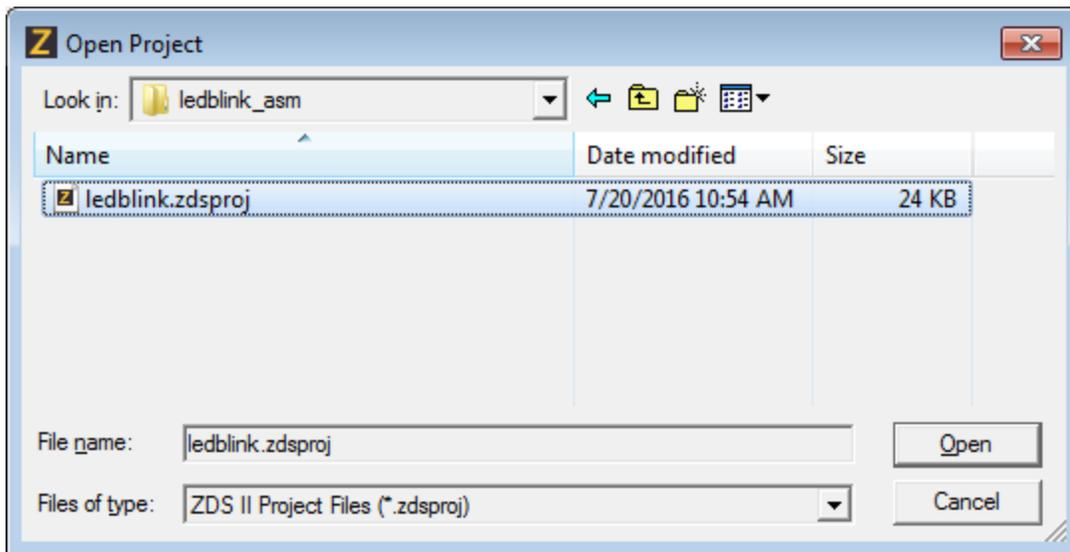

Figure 8. Select the ledblink.zdsproj Project
3. Select the `ledblink.zdsproj` project from within the `ledblink_asm` folder as indicated in Figure 8 and click **Open**. A list of source files will appear in the Work-space panel.